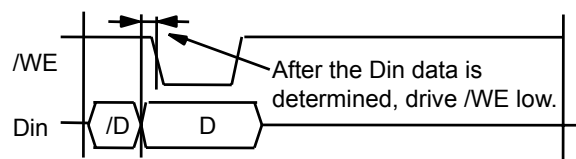
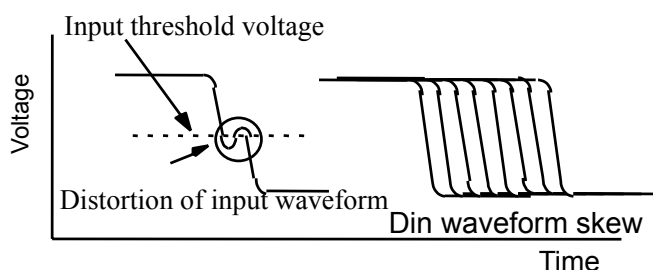

Figure 3 Write Verify Timing (Countermeasure Applied)
Figure 2 Din Input Waveform
- (1) Avoid executing the read for verification in the same cycle as the write operation it follows. Verify the written data after inputting an address or switching the /CS signal.
- (2) Please ensure that your design is not subject to adverse effects because of distortion or skewing of the Din input waveform (figure 2). Drive /WE low (write) after determining the data on Din (see figure 3).